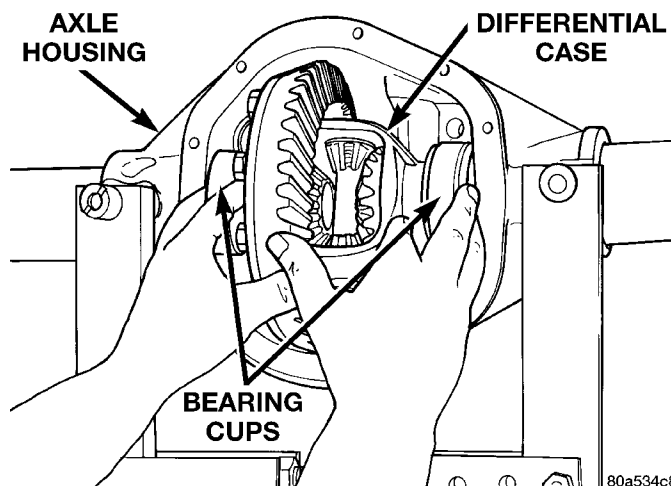

Fig. 31 Differential Case Removal
(10) Remove the dial indicator.
(11) While holding the differential case in position, remove the differential bearing cap bolts and caps.
(12) Remove the differential from the housing. Ensure that the differential bearing cups remain in position on the differential bearings (Fig. 31).